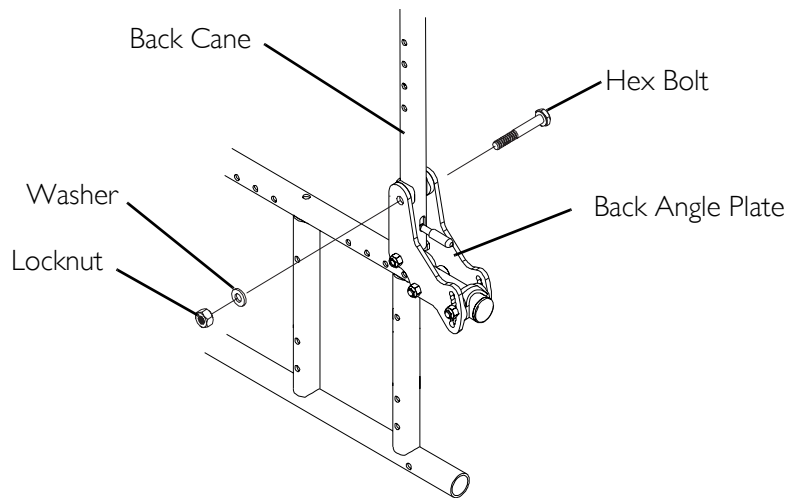

FIGURE 7.6 Adjusting Back Height - Fixed Height Backs
NOTE: For this procedure, refer to FIGURE 7.6 on page 69.
5. Secure the new back canes to the back angle plates with hex bolts, locknuts and washers. Torque to 35-inch pounds. Refer to FIGURE 7.6 for correct hardware orientation.